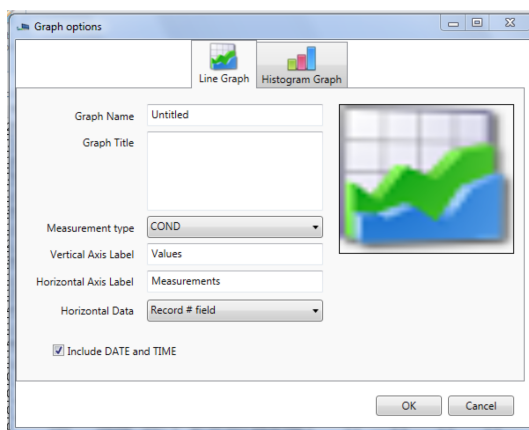

Figure 54
- 3) The following dialogue box will open (Figure 54).